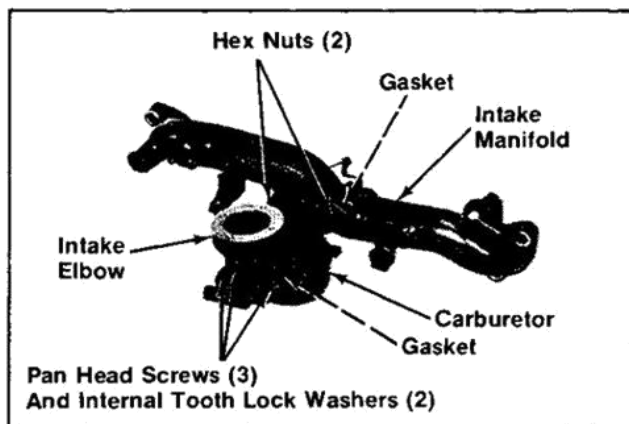

Figure 11-50. Installing Intake Elbow And Carburetor.
1. Install the gasket, intake elbow, internal tooth lock washers, and pan head screws to carburetor. Refer to Figure 11-50.